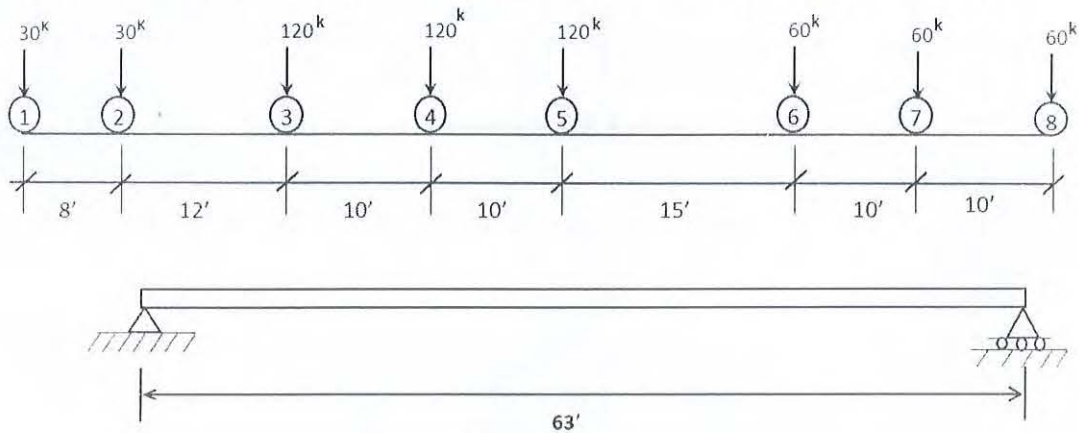

Figure 1
1. Analyze the simply supported girder shown in **Figure 1** for the following wheel load and Calculate the Maximum Bending Moment at 21ft from left support of the girder. [12]